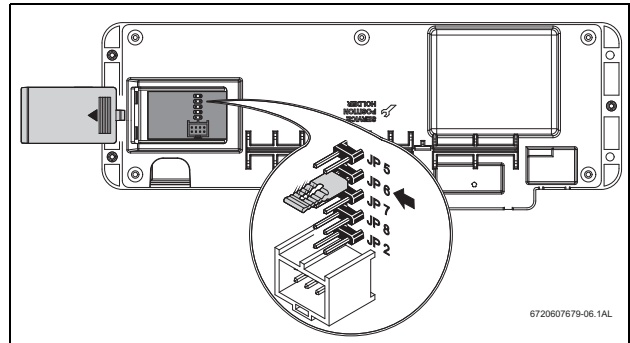

Fig. 11 LPG to NG
- ▶ 1. Add jumper to location JP6 on the control board (Fig. 11).